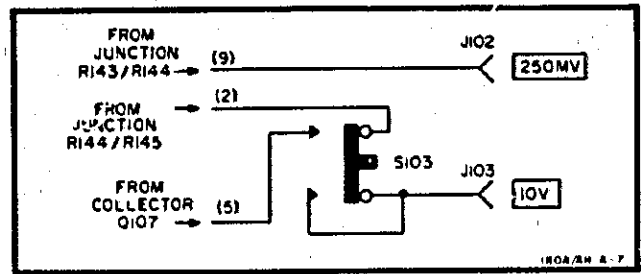

Figure 7-1. Calibrator Switch
- Add: S103; S: pushbutton; connect as shown in Figure 7-1.